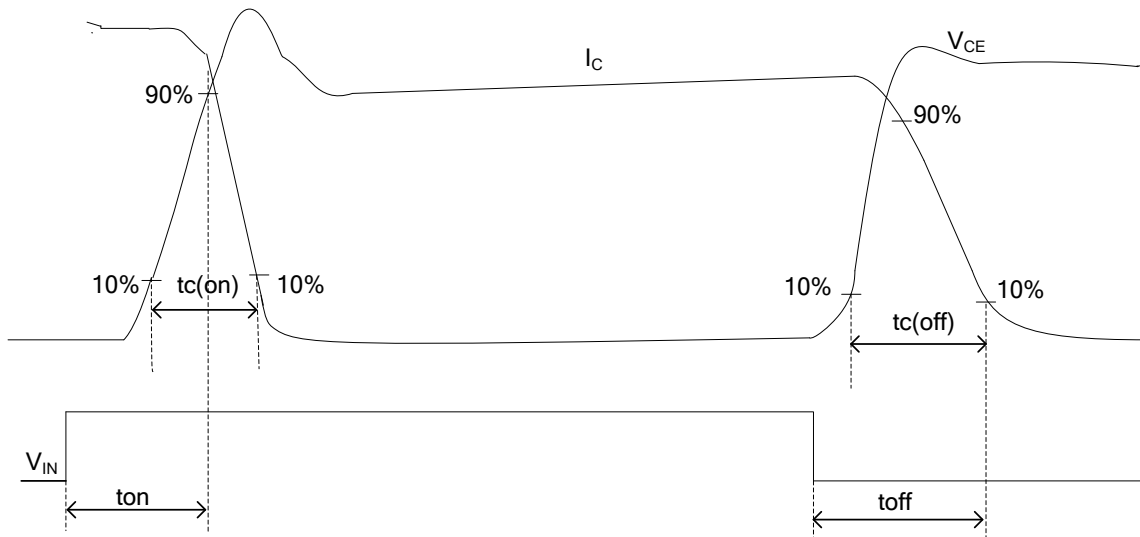

Fig 3. Switching Time Definition
**Note 2** : ton and toff include the propagation delay time of the internal drive IC. tc(on) and tc(off) are the switching time of IGBT itself under the given gate driving condition internally. See figure 3.